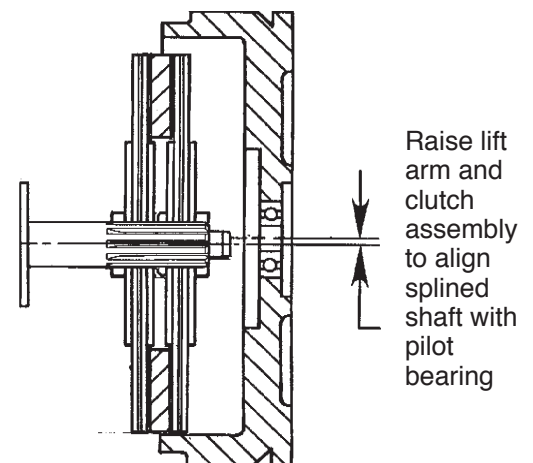

Figure 8
6. Use the adjusting knob to change the angle of the clutch assembly to match the flywheel. Roll the clutch handler forward to insert the splined shaft. Rotate the splined shaft for correct engagement of the clutch disc. **NOTE:** The front clutch disc in the flywheel is slightly lower than the center line of the pilot bearing. It may be necessary to raise the lift arm to correctly align the splined shaft with the pilot bearing. See Figure 8.